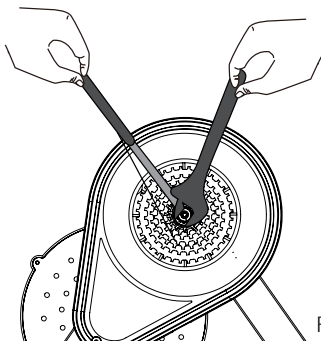

Figure 4
3. Because there is no wheel to brace against when you are tightening the locking ring, you will need to apply a chain whip onto the cassette in reverse to be able to tighten the locking ring. See figure 4.